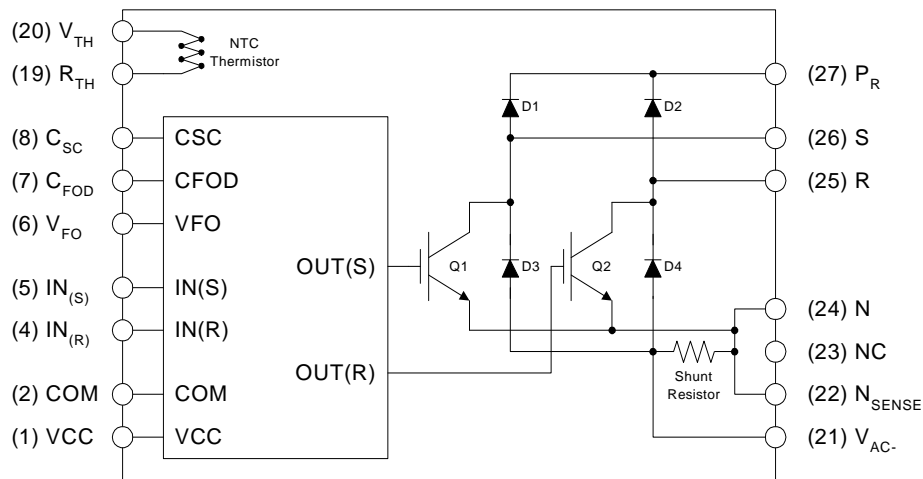

Figure 3. Internal Block Diagram
- PFC converter for single-phase AC / DC power conversion.(please refer to Figure 3)